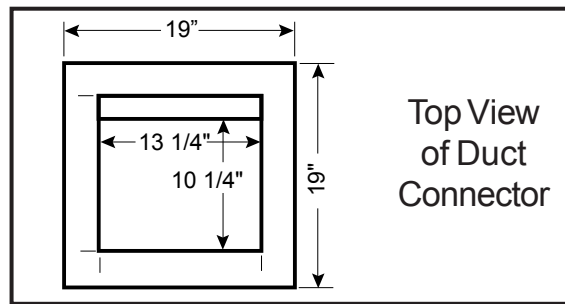

Figure 4. Connector Dimensions
- Locate center of the floor opening, measured 10" from the rear wall, and mark cut-out measuring approximately 14-1/2" by 14-1/2" ($\pm 1"$) for model duct connector used (refer to Figures 4 & 5).